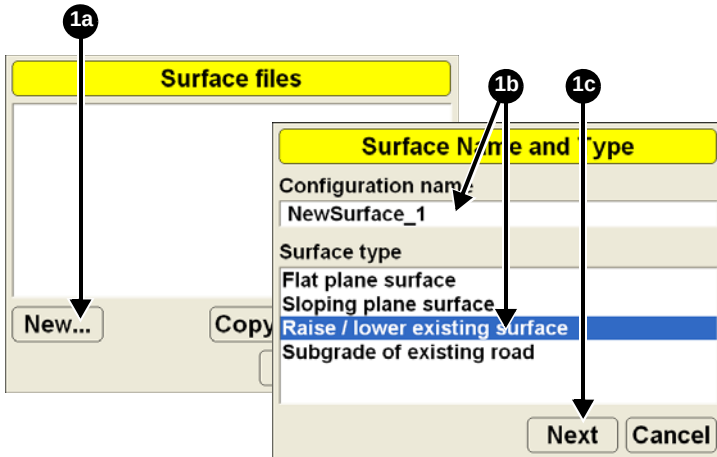

Figure 3-27. Create New Surface File
1. Press **Topcon Logo** ► **File** ► **Surfaces** ► **Working** or **Reference** and press **New**. Enter and select the following information for the new surface file. Press **Next** (Figure 3-27).